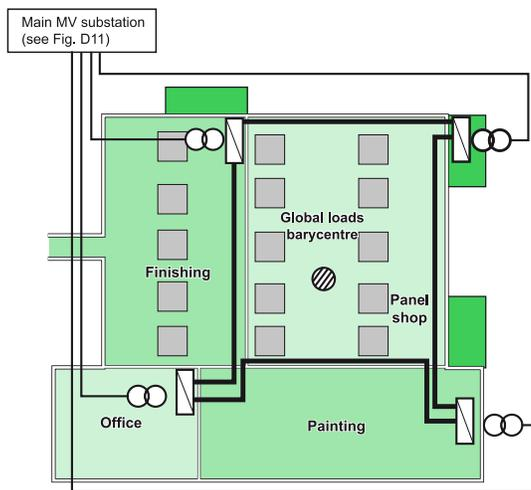

Figure 12 – Layout example. The position of the global load barycentre guides the positioning of power sources.
**1. Selection guide** – IEC 60364-8-1 §6.3, recommends MV/LV substation locations be determined by using the barycenter method, **see Figure 12:**